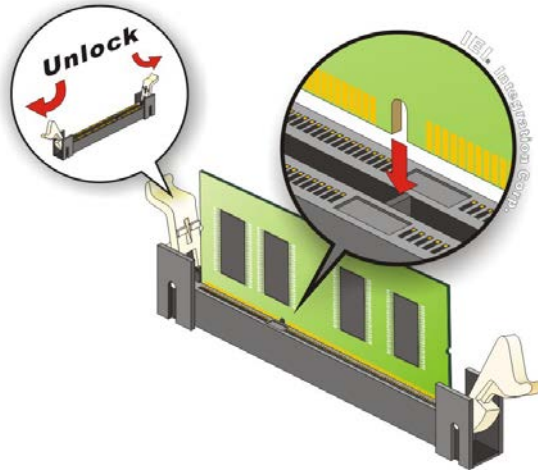

Figure 4-1: SO-DIMM Installation
To install an SO-DIMM, please follow the steps below and refer to Figure 4-1.
- Step 1:** **Open the SO-DIMM socket handles.** Open the two handles outwards as far as they can. See Figure 4-1.
- Step 2:** **Align the SO-DIMM with the socket.** Align the SO-DIMM so the notch on the memory lines up with the notch on the memory socket. See Figure 4-1.
- Step 3:** **Insert the SO-DIMM.** Once aligned, press down until the SO-DIMM is properly seated. Clip the two handles into place. See Figure 4-1.